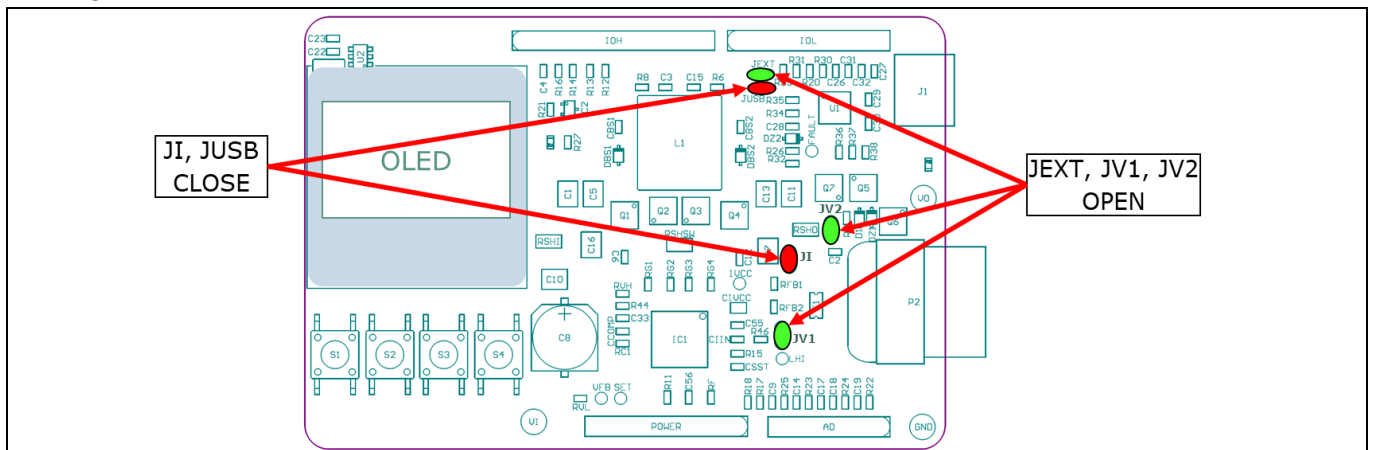

Figure 4 Set jumpers for charger mode powered by USB-PD
1. Set solder jumpers for current regulator and USB-PD supply: see Figure 4